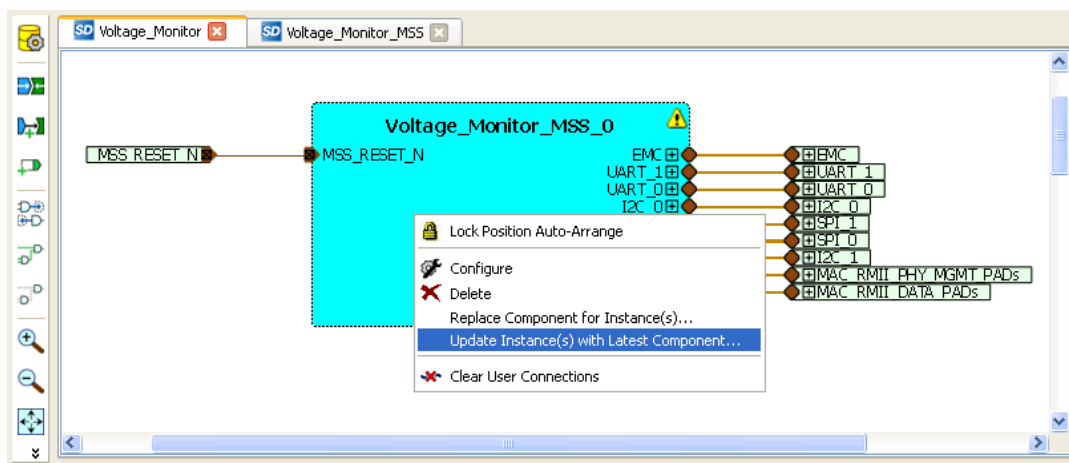

Figure 53 · Updating the MSS
1. Right-click on Voltage\_Monitor\_MSS\_0 component on the **Voltage\_Monitor** tab and select **Update Instance(s) with Latest Component** as shown in Figure 53 .